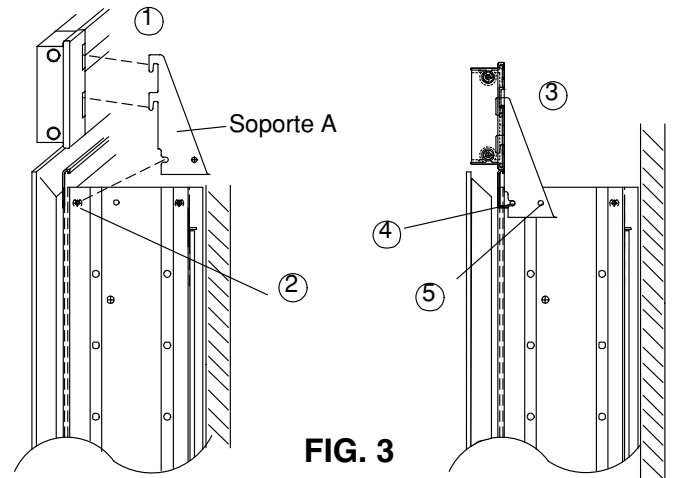

FIG. 3
1. If you are **surface mounting** the cabinet on the wall note the wire location in Fig. 2 section 1, the wiring diagram in Fig. 2 section 2 then proceed to Fig. 3.
2. If you are **recessing** the cabinet in the wall note the wire location in Fig. 2 section 1, the wiring diagram in Fig. 2 section 2 then proceed to Fig. 3.
4. The fixture mounts to the cabinet when the cabinet is surface mounted, see Fig. 3.
4. El artefacto se monta en el gabinete cuando el mismo se monta en una superficie (consulte la Fig. 3).